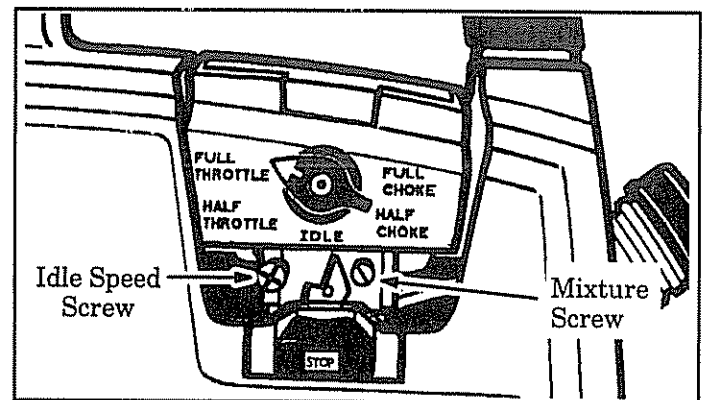

Figure 5
- b. Turn the Mixture Screw (Figure 5) clockwise until fully closed, but do not over-tighten. Figure 5. Then, turn it one full turn counterclockwise.
- c. Turn Idle Speed Screw (Figure 5) clockwise until it stops. Do not overtighten. Then, turn it three full turns counterclockwise.